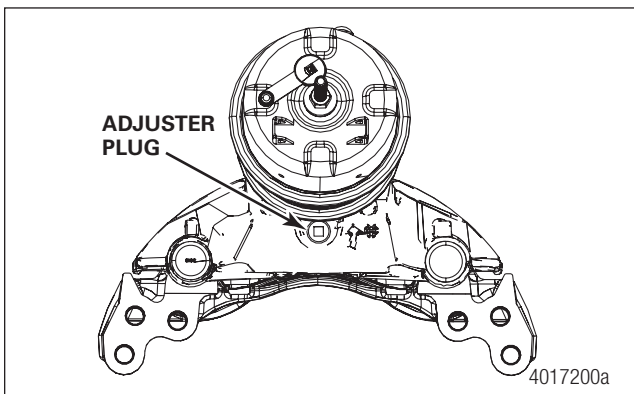

Figure 6.24 Adjuster Plug
1. Remove the adjuster plug. Figure 6.24.